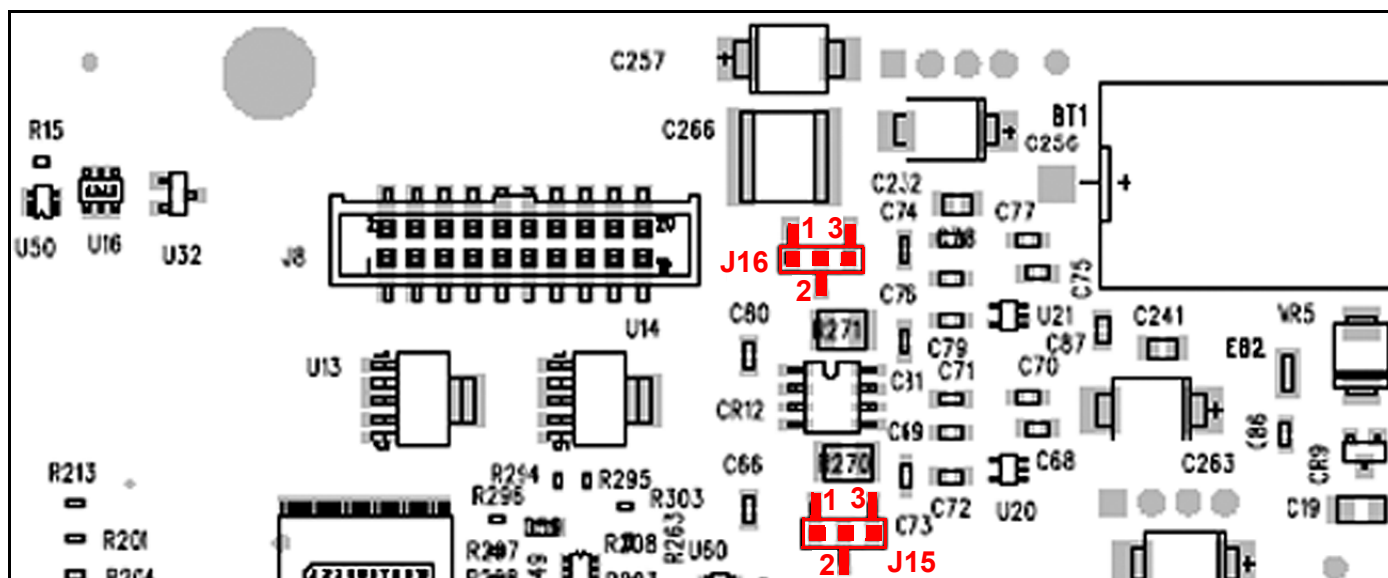

Figure 27: RS-485 Mode Termination - Install Jumpers at J15 and J16, Pins 1 and 2
- Using long-nose pliers, move jumpers J15 and J16 from pins 2 and 3 (default setting from factory) to pins 1 and 2 (see Figure 27 on page 27). J16 is the termination for port 1 and J15 is the termination for port 2. It is also recommended that basic ESD precautions such as grounded wrist straps be used for this procedure.
For multiple **Aurora H2O** units connected in daisy-chain fashion to the RS485 interface, it is important that the farthest unit away from the transmitting device be the only unit incorporating any termination (see *Figure 27* below). All other units must have jumpers J15 and J16 in positions 2 & 3 (default setting from the factory). For more details on RS-485 wiring or operation, refer to TIA/EIA-485-A Specification.